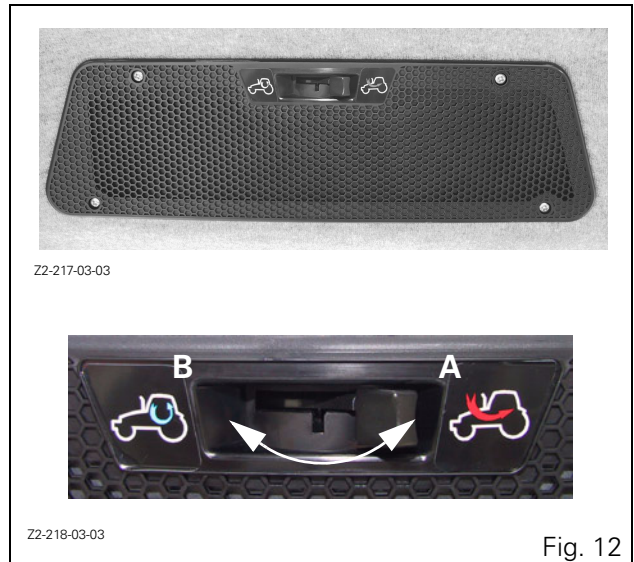

Fig. 12
6. Adjustable ventilation grille (see detail Fig. 12).